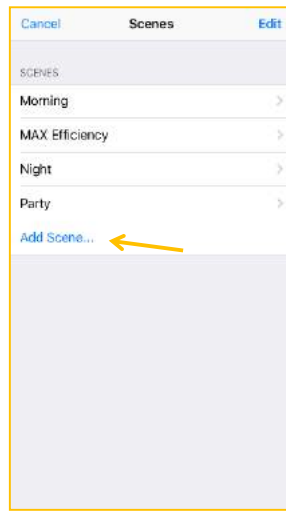
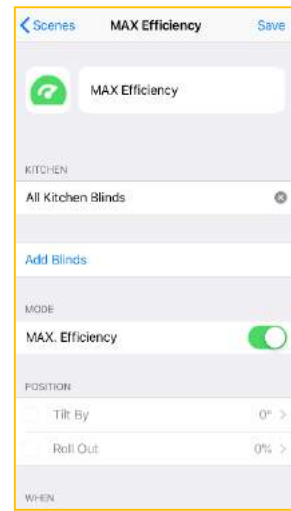

Figure 45
Figure 46
10.10.3. To change setting of the scenario, click on name of the desired scenario (Fig. 45) and introduce changes (Fig. 46):
10.10.4. To add a new operating scenario for the BLINDS click **Add Scene** (Fig. 45) and go through setting process as described in *para. 7*.